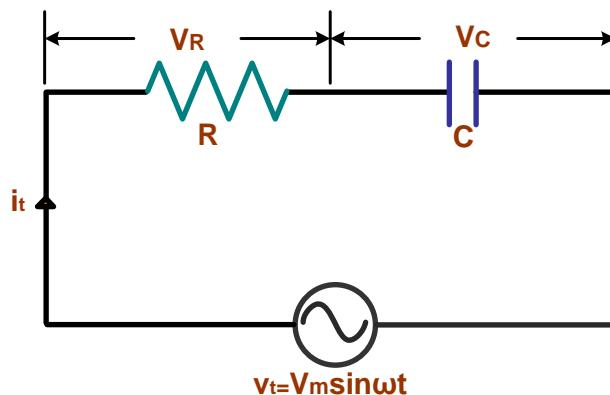

Figure 2.28 Circuit Diagram of Series R-C Circuit
- Consider a circuit consisting of a resistor of resistance  $R$  ohms and a purely capacitive of capacitance farad in series as in the Fig. 2.28.